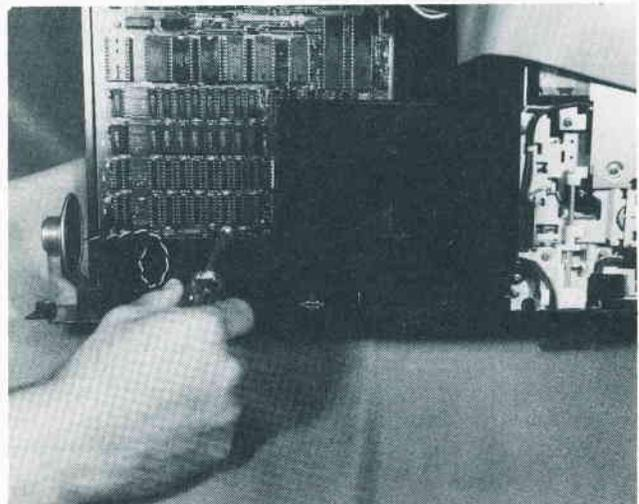

Fig. A-4. Remove the system-board mounting screws.
5. Remove the system board mounting screws as shown in Fig. A-4.